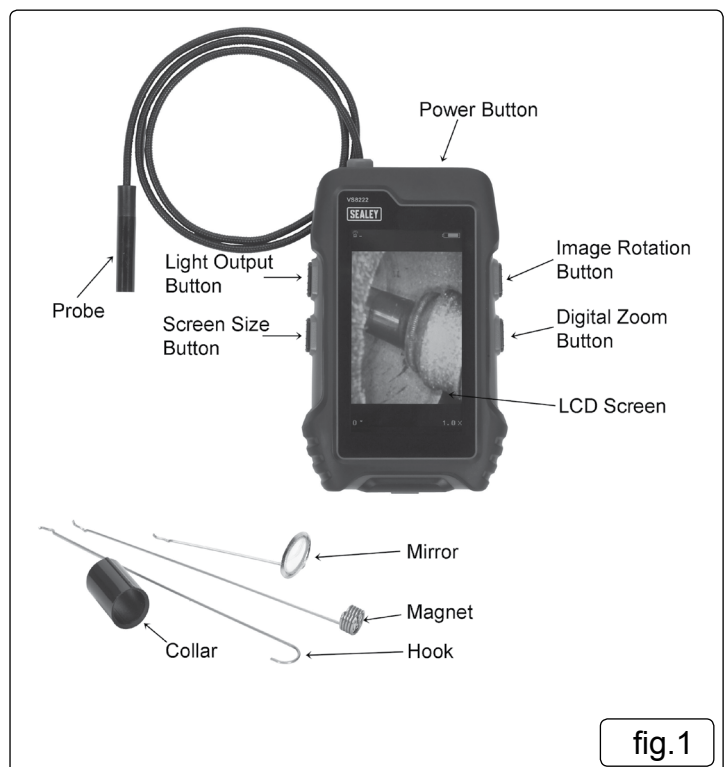

fig.1
- 5.8. Use the function buttons as described in fig.1 to set light output, screen size, zoom and viewing orientation.